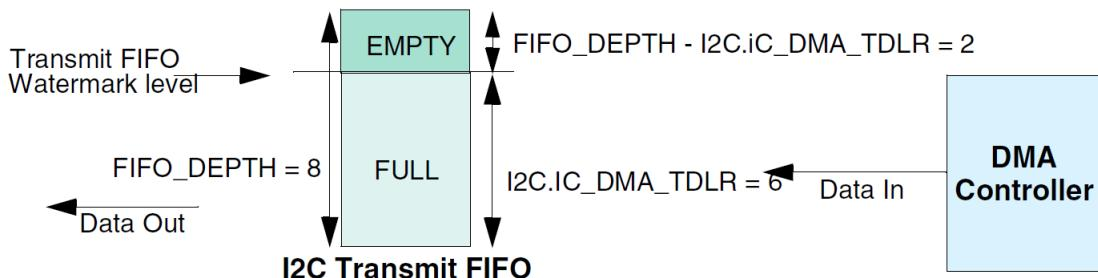

Figure 15.40: Case 2 Watermark Levels
As can be seen from Figure 15.40 , programming DMA.CTLx.DEST\_MSIZEx to a value greater than the watermark level that triggers the DMA request may cause overflow when there is not enough space in the I2C transmit FIFO to service the destination burst request. Therefore, the following equation must be adhered to in order to avoid overflow: DMA.CTLx.DEST\_MSIZEx <= I2C.FIFO\_DEPTH - I2C.IC\_DMA\_TDRL (1) In Case 2: IC\_DMA\_TDRL = 6, the amount of space in the transmit FIFO at the time the burst request is made is equal to the destination burst length, DMA.CTLx.DEST\_MSIZEx. Thus, the transmit FIFO may be full, but not overflowed, at the completion of the burst transaction. Therefore, for optimal operation, DMA.CTLx.DEST\_MSIZEx should be set at the FIFO level that triggers a transmit DMA request; that is: DMA.CTLx.DEST\_MSIZEx = I2C.FIFO\_DEPTH - I2C.IC\_DMA\_TDRL (2) This is the setting used in Figure 15.38 . Adhering to equation (2) reduces the number of DMA bursts needed for a block transfer, and this in turn improves AMBA bus utilization.